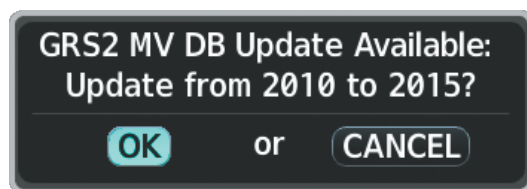

Figure B-16 GRS2 Magnetic Field Variation Database Update Prompt
- 2) When the upload is complete, the prompt for the next GRS upload is displayed, as seen in Figure B-16.